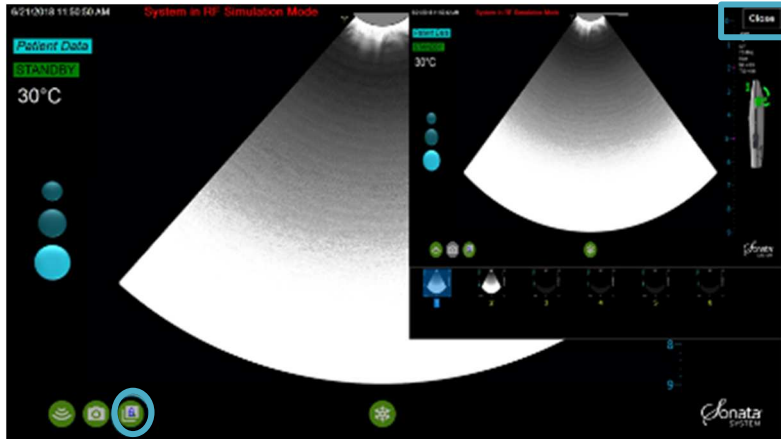

Figure 6-12. Image Review.
- The Image Review icon will change from gray to green. The number of stored still images will be displayed within the Image Review icon  at the bottom left, see Figure 6-12.
An Image Review window will display in the upper right-hand corner of the ultrasound display screen. Select the image to be displayed from the thumbnail images, see Figure 6-12Figure 6-12.
- Tap Close the Image Review window when finished reviewing images, see Figure 6-12Figure 6-12.